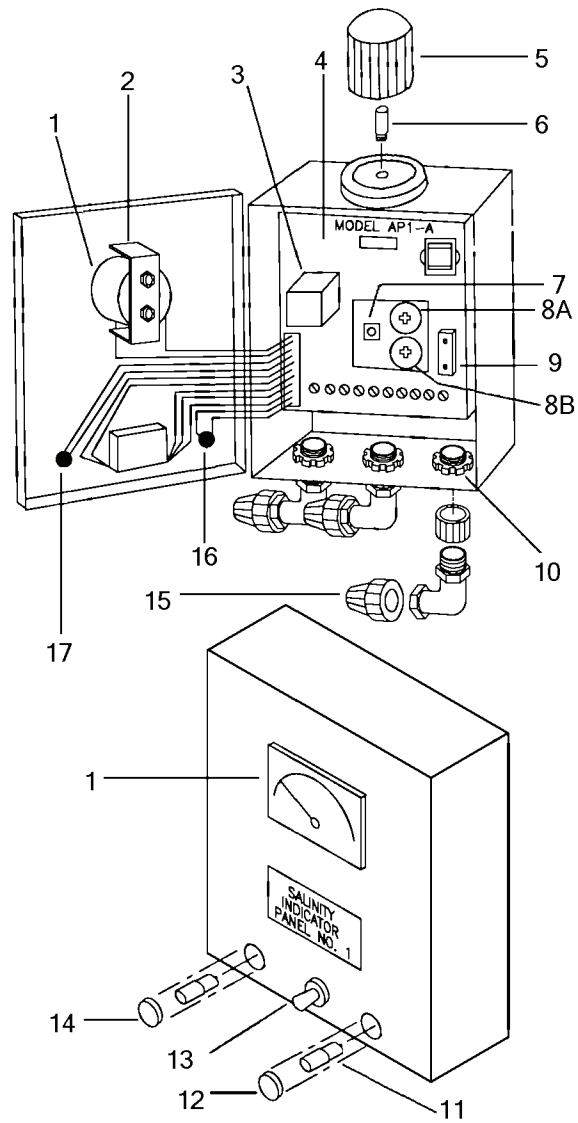

Figure 2-15. Salinity Power Panel.
2-22. Salinity Power Panel. (Figure 2-15)
- a. Open door to salinity power panel (Figure 2-15).
- c. Depress and hold the toggle switch (7).